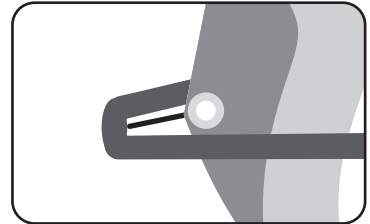

Figure 5: Set the boom length to the outhaul cord
- c) Gently pull on the outhaul cord and set your boom to the end of the cord (figure 5).